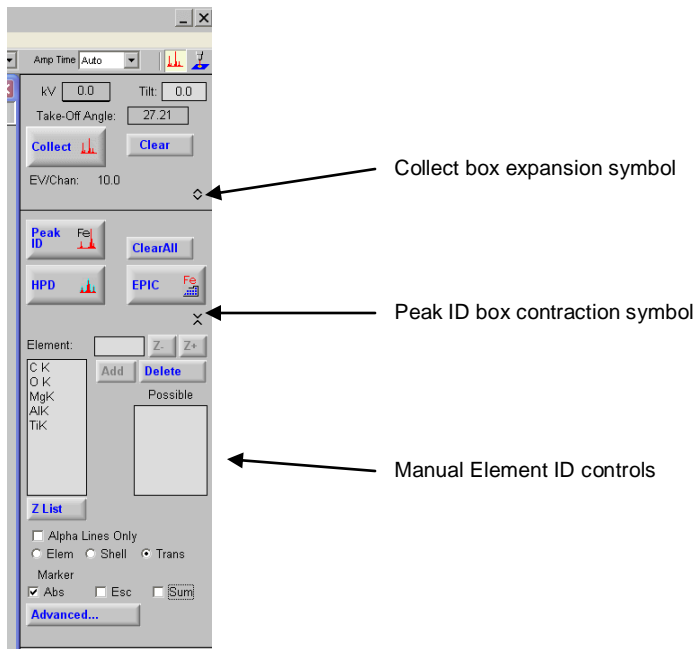

Figure 32. Expanded Peak ID box showing manual peak identify controls and box expansion/contraction symbols (^).
- Manual peak identification can be done several ways using the expanded Peak ID panel, Figure 32. Click on the up and down carat symbol (^) in the right side panel to expand the Peak ID section.